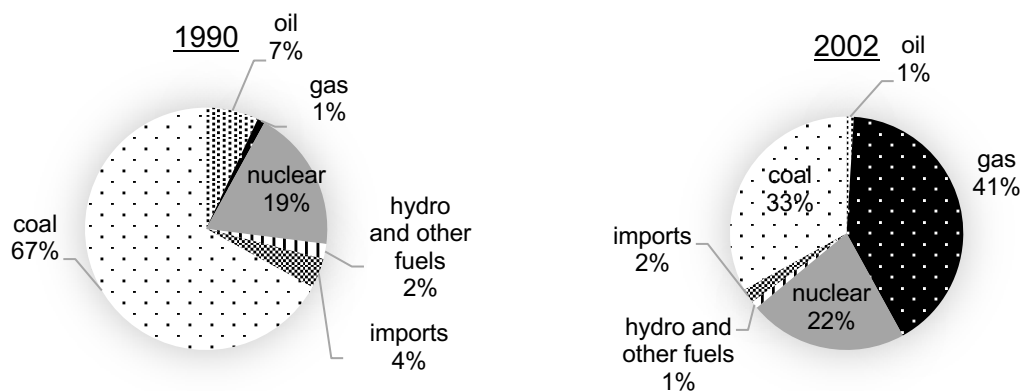

Fig. 11.1
B11 Fig. 11.1 shows the types of fuel used in 1990 and 2002.
- (a) Use the information in Fig. 11.1 to describe the changes in the main type of fuel used from 1990 to 2002.